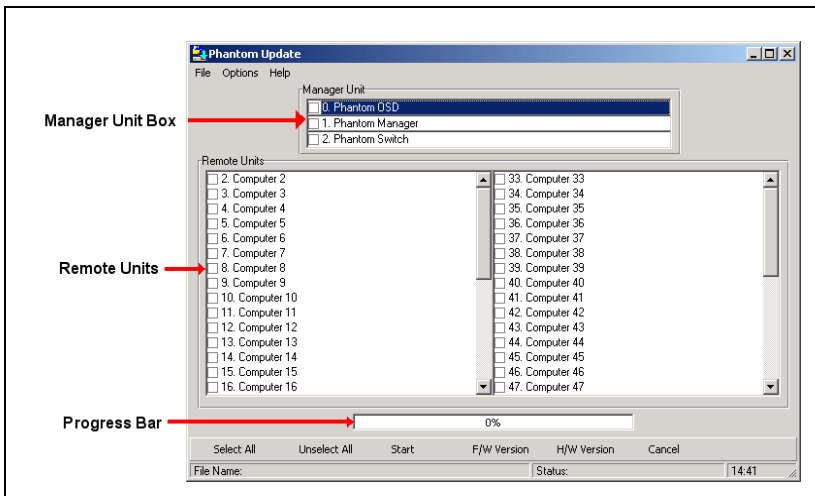

Figure 28 The Phantom Update window
1. Start the Phantom Update software. The Phantom Update window appears. See Figure 28.